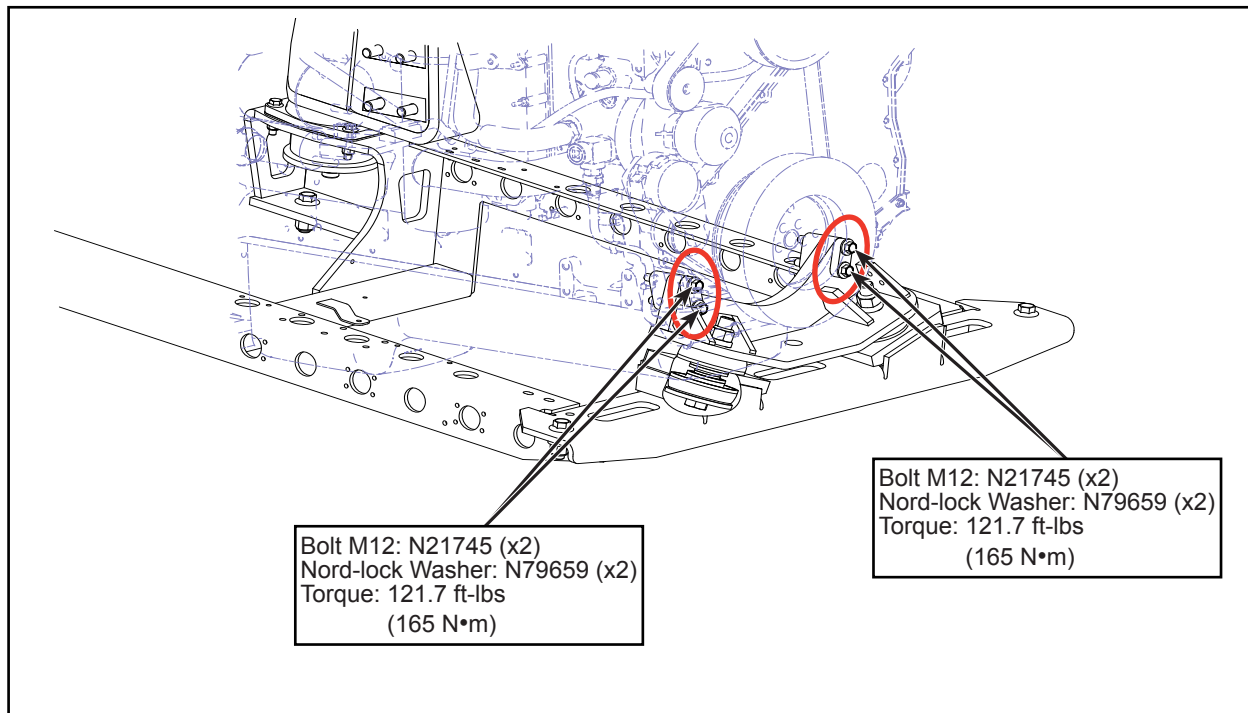

Figure 5 - Installation of Engine Mounting Bolts and Nord-lock Washers
- 1.8. Install and tighten the new engine mounting bolts (N21745 x4) with nord-lock washers (N79659 x4) and torque to 121.7 ft-lbs (165 N•m) (see Figure 5).